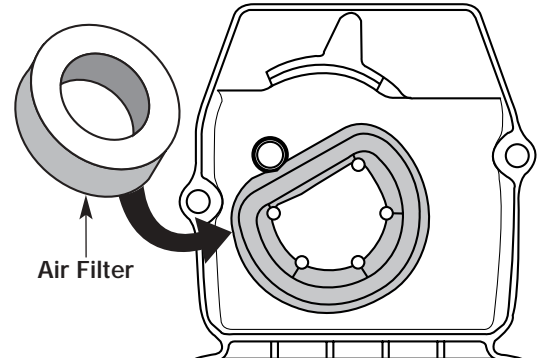

Fig. 22
2. Remove the air filter from behind the air filter/muffler cover (Fig. 22).
6. Replace the air filter in the air filter/muffler cover (Fig. 22).